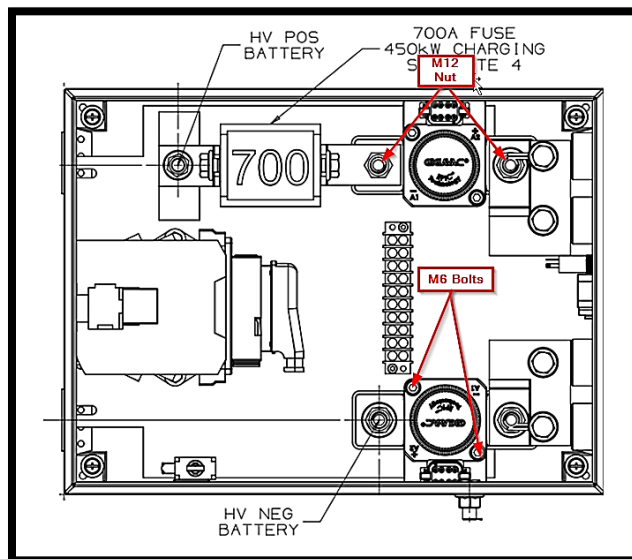

Figure 4 - Contactors Mounting screws
- 2.6. Disconnect each contactor from the HV connections by opening the two M12 nuts on each side of the contactors and retain hardware (see figure 4).
- 2.7. Remove each contactor by opening the two M6 mounting screws and retain hardware (see figure 4).